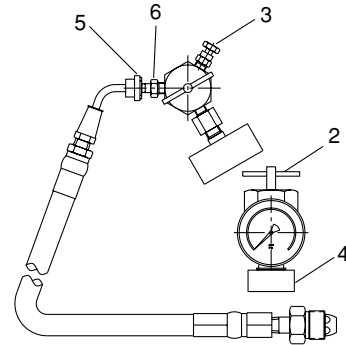

Figure 1
- (A) Remove protective cover. Refer to Figure 1.
- (B) Turn charging device “T” handle (2) all the way in (clockwise) before attaching charging assembly.
- (C) Close bleed valve (3).
- (D) Making sure not to loop or twist the hose, attach nut (4) to gas valve and tighten.
- (E) Attach swivel nut (5) to gas valve (6) and tighten.
- (F) Turn “T” handle (2) in counterclockwise motion until rotation stops.
- (G) Crack open nitrogen bottle valve and **slowly** fill accumulator until the button is seated on the fluid port opening, then the nitrogen supply may be fully opened. Shut off the nitrogen supply when the gauge indicates 110% of desired pre-charge.
- (H) Let the pre-charge set for 1 to 2 minutes. This will allow the gas temperature to stabilize. Slowly open bleed valve (3) until the proper pressure is reached, then close the bleed valve (3).
- (I) When finished pre-charging accumulator, turn the “T” handle (2) clockwise all the way, then open bleed valve (3) to bleed the residual pressure from the charging device.
- (J) Holding the “T” handle (2) to keep from turning, loosen nut (4), and remove the assembly from the accumulator.
- (K) Torque the Allen head screw to 14.5 ft-lb +3 (20 Nm +5).